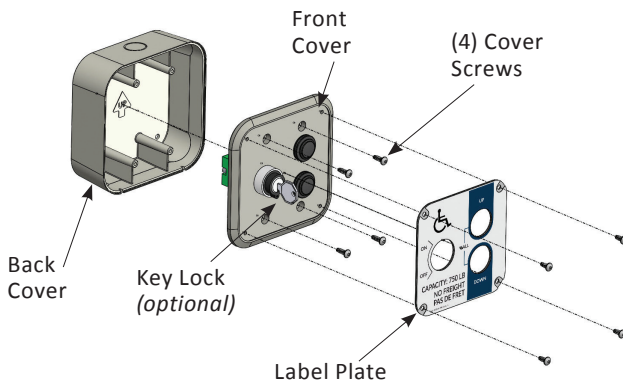

Figure 4-19
1. Remove four (4) label plate screws and label plate. *See Figure 4-19.*